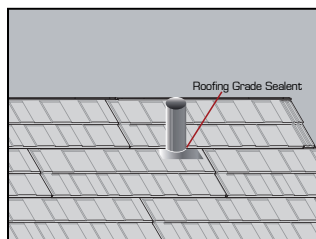

Figure 18. Installed pipe flashing
Figure 18. (1) Install roof-to-wall channel on both sides and at the back of the chimney; bend the front panel upwards as you would at a ridge. (2) Seal all around the chimney with roofing grade sealant. (3) Install Z bar around chimney.